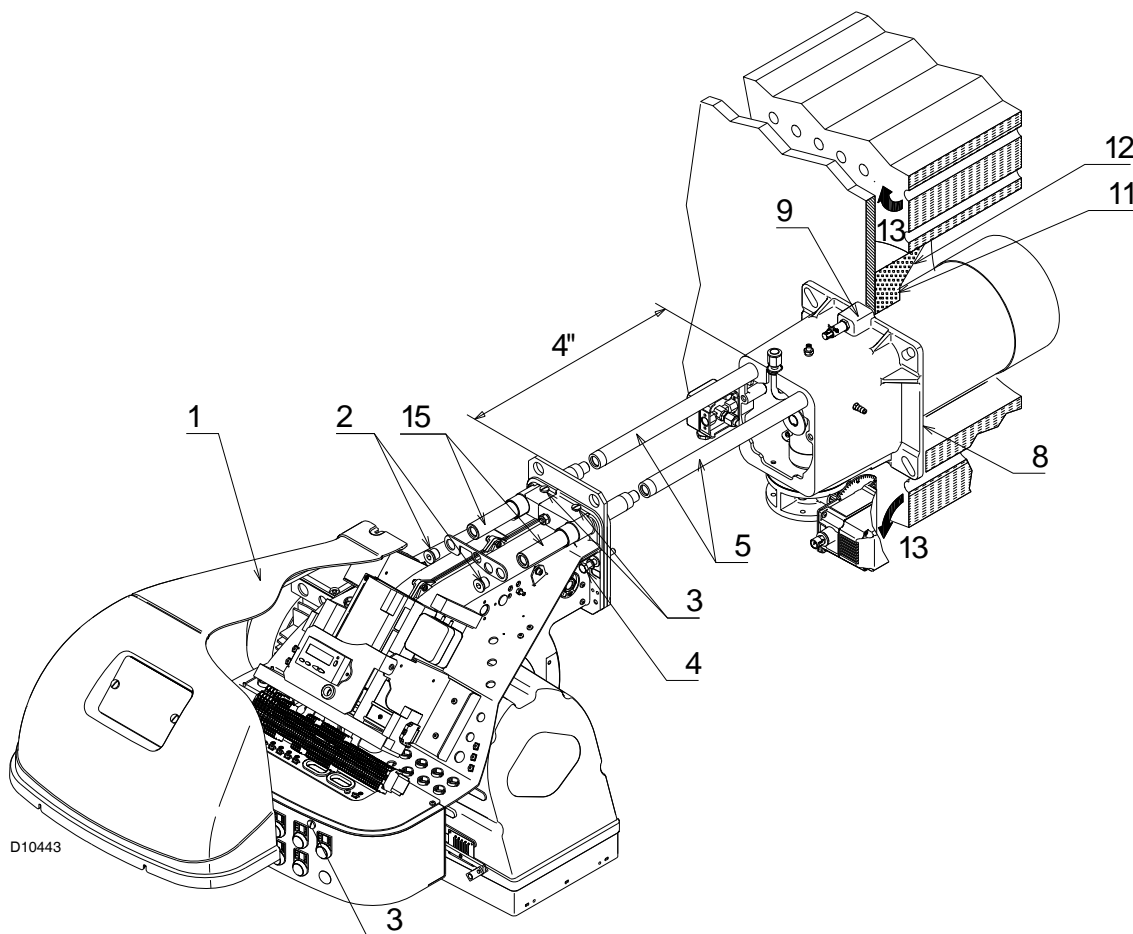

Fig. 11
- For boilers with front flue passes 13)(Fig. 11) or flame inversion chambers, a protection in refractory material 11) must be inserted between the boiler refractory 12) and the blast tube 10). This protection must not compromise the extraction of the blast tube.
- For boilers with a water-cooled frontal, a refractory lining is not necessary 11)-12)(Fig. 11) unless expressly requested by the boiler manufacturer.
- Secure the burner to the boiler, fixing the flange 9)(Fig. 11) to the boiler plate and interposing the insulating gasket 8).
- loosen the 4 screws 3)(Fig. 11) and remove the cover 1);